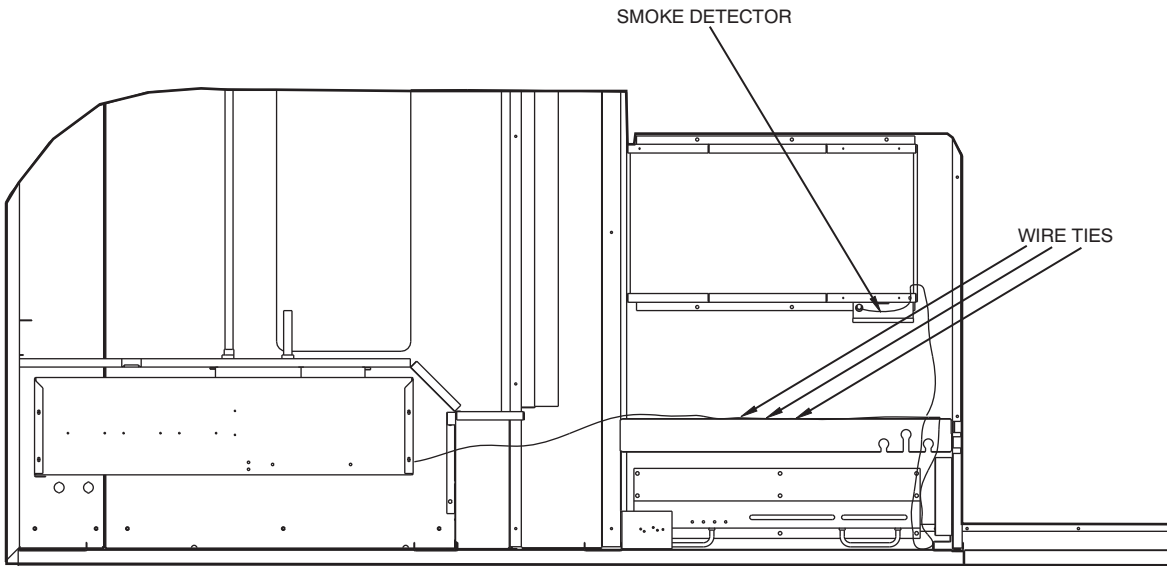

Fig. 9 – Supply Smoke Detector Location and Wire Routing (Top View)
The supply air smoke detector is to be installed in the predrilled holes located on the front of the first indoor blower. (See Fig. 9.)
13. Attach cable to fan side plate using snap-in wire ties. See Fig. 9 for clarification. Secure to center post.